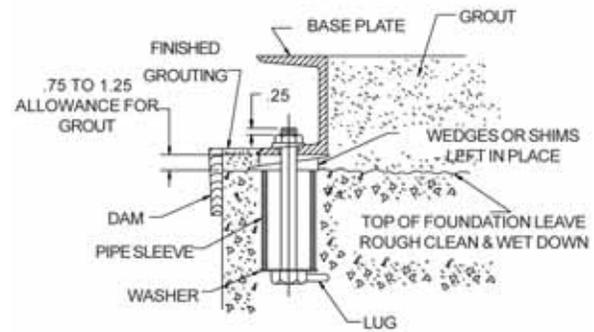

Fig. 3 Anchor bolt installation
Your KP pump should be permanently installed on a firm, concrete foundation mounting pad of sufficient size to dampen any vibration and prevent any deflection or misalignment. The pad may float on springs or be a raised part of the equipment room floor. The foundation should be poured without interruption to 3/4 to 1-1/2 inches below the final pump elevation. The top surface should be well scored or grooved before the concrete sets to provide a suitable bonding surface for grout. Anchor bolts should be set in pipe sleeves for positioning allowance, as shown in Fig. 3. Allow enough bolt length for grout, lower base plate flange, nuts and washers. Allow the foundation to cure several days before proceeding with pump installation.
- After pump alignment has been established, put nuts on foundation bolts and tighten them just enough to keep the unit base plate from moving. Construct a form or dam around the concrete pad and pour grout in and around the pump base. (See Fig. 3). Grout compensates for uneven foundation, distributes the weight of the unit, and prevents shifting. Use an approved, non-shrinking grout (such as Embecco 636 by Master Builders, Cleveland, Ohio or equivalent). Allow at least 24 hours for this grout to set before proceeding with piping connections.